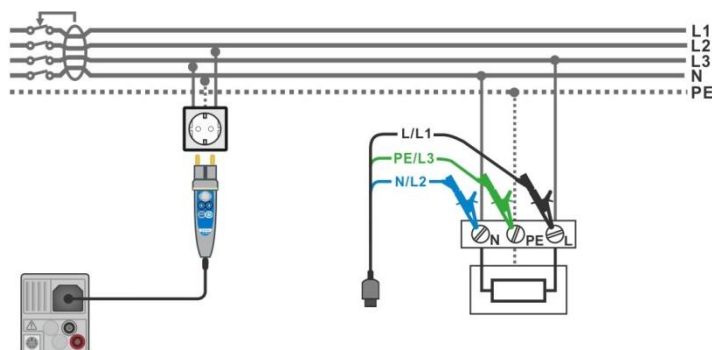

Figure 7.32: Connection of Plug commander and 3-wire test lead
- › Connect test leads or Plug commander to the object under test, see **Figure 7.32**.